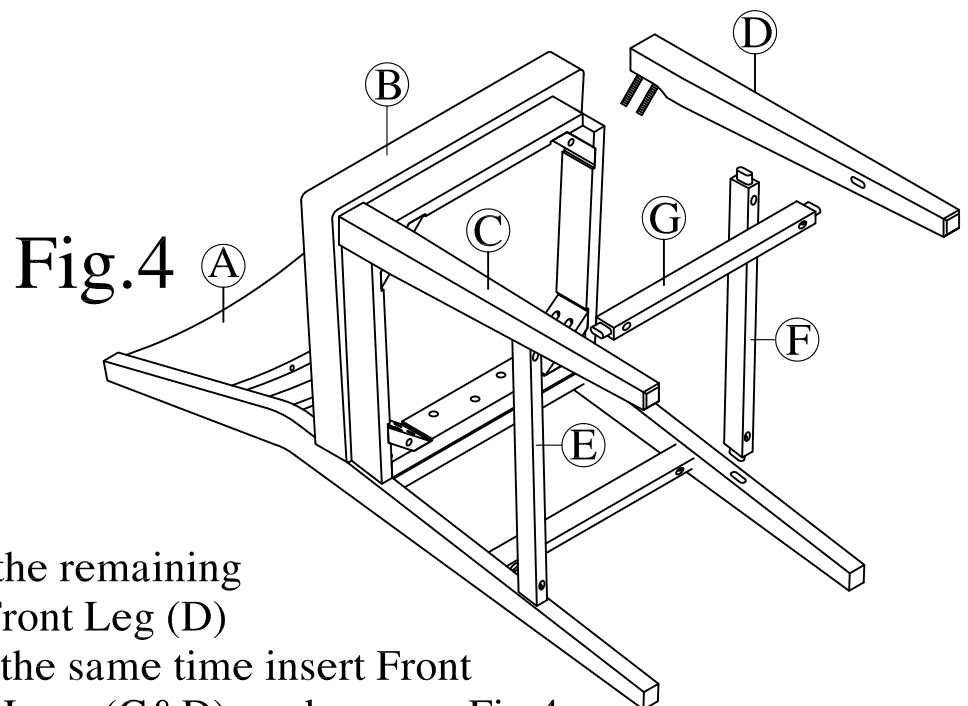

Fig.4
Repeat step 3 to attach the remaining Side Stretcher (F) and Front Leg (D) to Cushion Seat (B). At the same time insert Front Stretcher (G) into Front Legs (C&D) as shown on Fig.4.